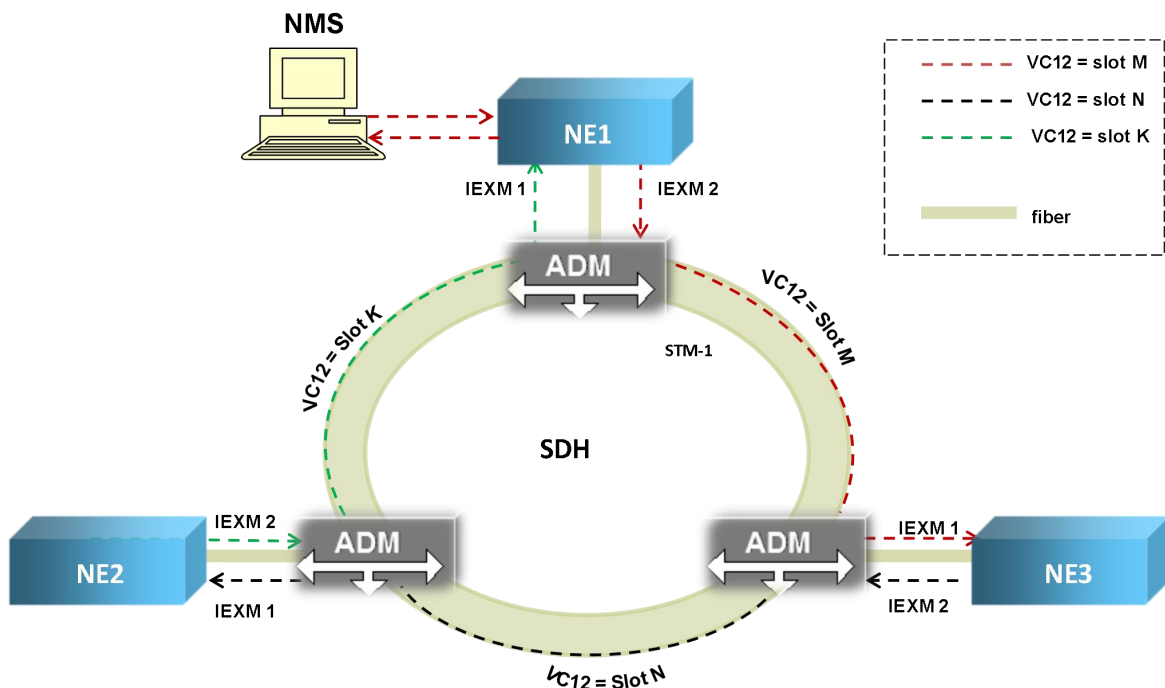

Fig. 5-13-2-1 Application I
1. Adopts “1+1” mode. Different VC-12 slot can be used to compose the E1 channel, such as M, N, K in Fig.5-13-2-1. M, N, and K slots are set as 1+1 protection mode. If more BD-MSOT is to be managed, more VC-12 slots will be occupied in STM-1.
2. Adopts “channel loopback” mode. All BD-MSOT shares an E1 channel consisting of one VC-12 slot, which can save resources in the 3rd party SDH network. See Fig.5-13-2-2-1 and Fig. 5-13-2-2-2.